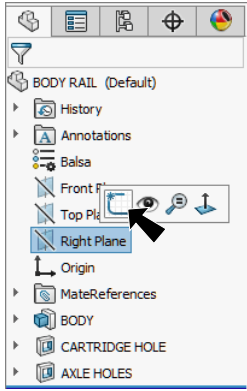

Fig. 5
Step 1. Click **Right Plane**  in the Feature Manager and click **Sketch**  on the context toolbar, **Fig. 5**.